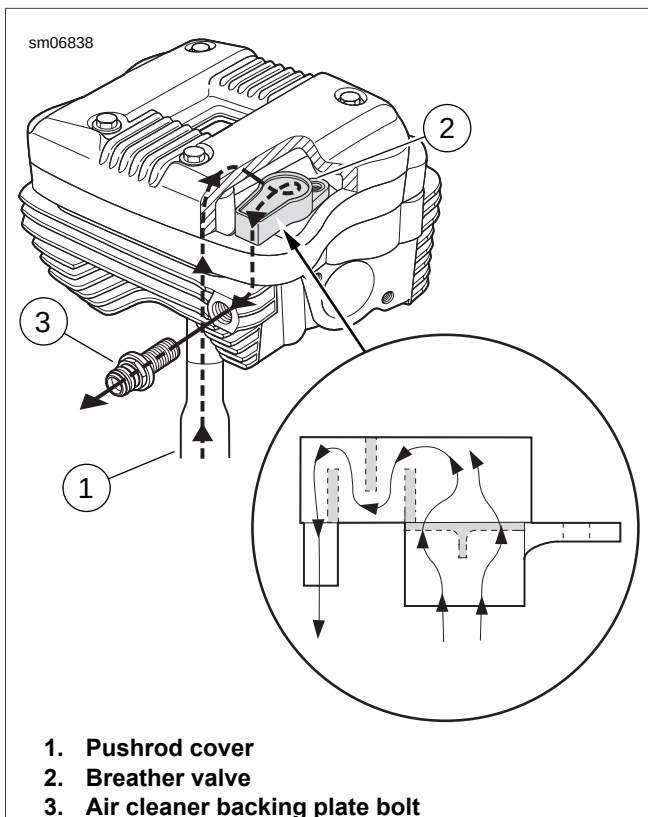

Figure 3-6. Crankcase Breathing System: XL Models
See Figure 3-6. On the piston downstroke, a mixture of crankcase air and oil mist is vented up the pushrod covers (1) through a breather valve (2) in each inner rocker box section.